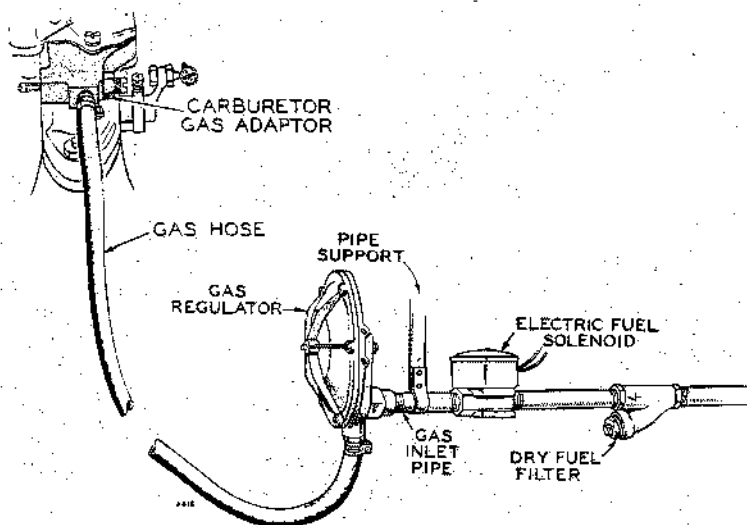

FIG. 13. GAS FUEL LINE CONNECTIONS
**FUEL, NATURAL GAS OR LPG.** - If the plant is equipped for the use of natural gas (or LPG), connect the gas fuel line to the gas pressure regulator as shown in Figure 13. The position of the gas pressure regulator is important and it must be installed as shown in the illustration. Local regulations may require the installation of a fuel solenoid valve and filter.